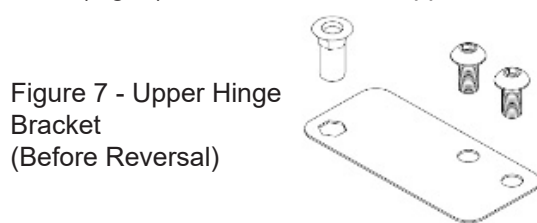

Figure 7 - Upper Hinge Bracket (Before Reversal)
5. Using a 5/32" Hex Key, remove the Upper and Lower Hinge Brackets from the door (Fig. 7), saving all components. Remove black plugs from opposite side of door. flip the Upper Hinge Bracket and reattach the Hinge Bushing (Fig. 7) and screw into place on the opposite side of the door (where plugs were removed). Remove the Cam Closer from the Lower Hinge Bracket (Fig. 7) and attach it to the opposite side (Fig. 7b).